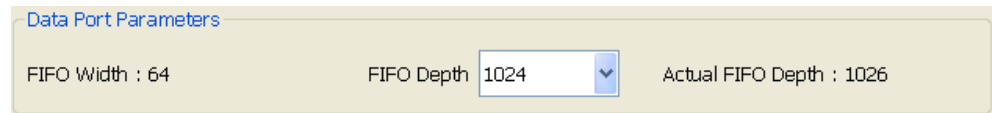

Figure 8-7: AXI4 Interface FIFO: Page 4 - FIFO Depth Selection
- Write Depth of Native FIFO can be set through FIFO Depth on Page 4 of the AXI4-Stream FIFO GUI, as shown in Figure 8-7.